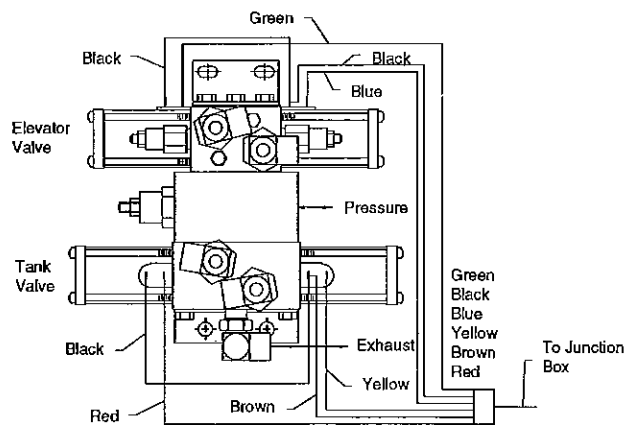
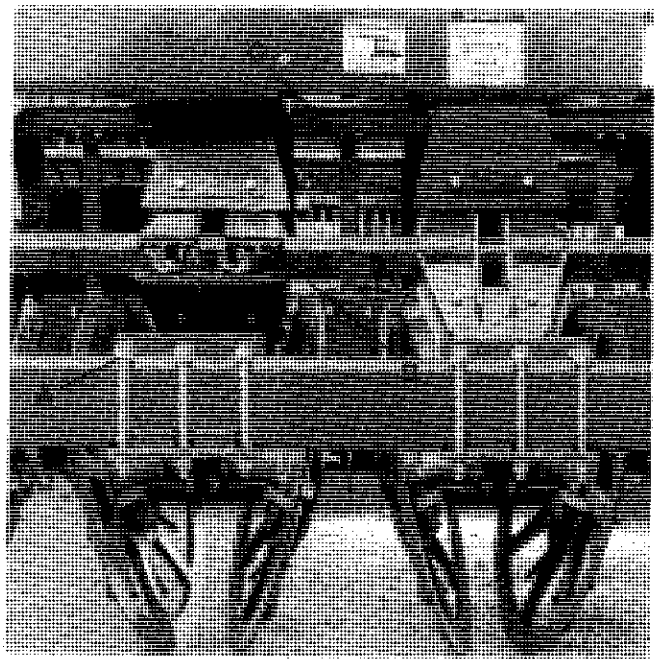

FIGURE 9 - VALVE ELECTRICAL CONNECTION
FIGURE 17 - LIFTER WHEEL SPACING
Route valve wire from junction box to valve assembly. Connect as shown (see figure 9).
To adjust lifter wheel row widths (see figure 17), loosen strut mounting bolts (A), paddle bolts (B), and barrier bolts (C). Slide all to proper row spacing (see figure 9, page 11 for dimensions). Tighten all bolts equally. Make sure all bolts are torqued correctly.